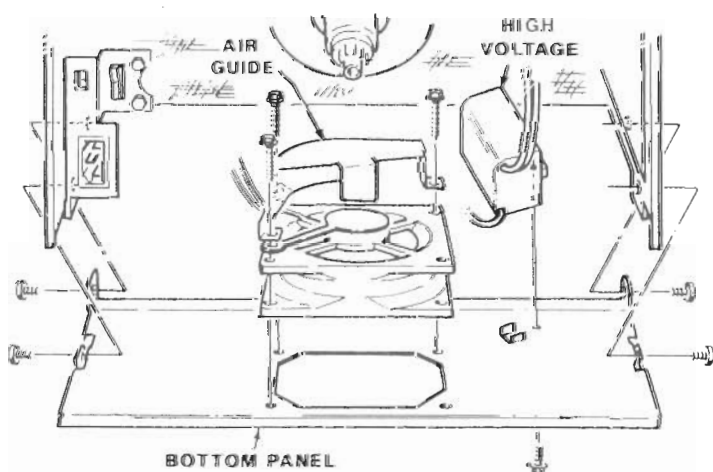

Figure 3-7. Fan and Bottom Panel Removal
2. Loosen the bottom panel. Refer to Figure 3-7 and remove the four hex screws that secure the bottom panel to each of the side panels.
4. Refer to Figure 3-7 and remove the three hex screws that secure the fan and air guide to the bottom panel. Remove the fan and disconnect the fan wires from the power supply board (connector 3S8).